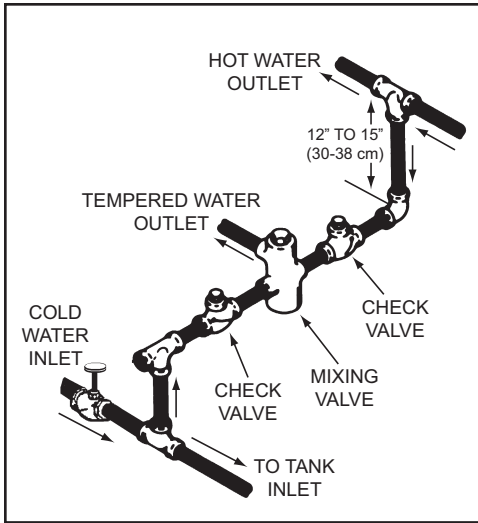

Figure 8. Mixing Valve
***In addition to using the lowest possible temperature setting that satisfies the demand of the application a means, such as a thermostatic point-of-use mixing valve, for example, can be used at the hot water taps used by these people to reduce the water temperature. See Figure 8 (page 16).***